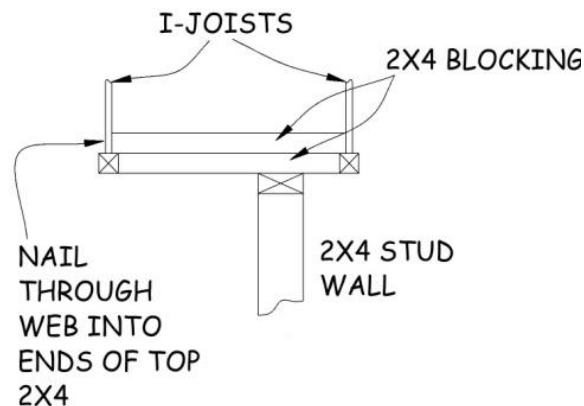

Figure 6-6. Blocking for Attaching Basement Walls Between I-joists.
12. Walls parallel to the I-joists require blocking at the top. Nail 2x4s between the bottom I-joist flanges at 24" O.C., flush with the bottom of the I-joist flange (see Figure 6-6).